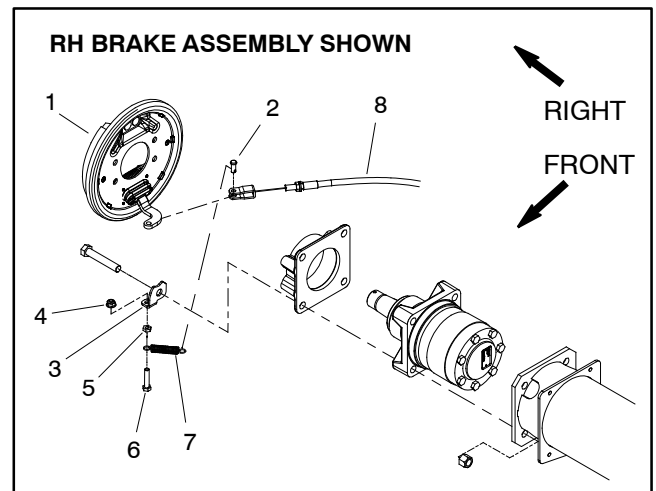

Figure 8
NOTE: Clevis pin that secures brake cable to brake actuator lever is secured with extension spring (shown in Fig. 8).
6. Remove extension spring from clevis pin that secures brake cable to brake actuator lever (Fig. 8). Remove clevis pin and position brake cable away from brake actuator lever.
7. Secure wheel hub onto the wheel motor shaft with lock nut (item 12).
9. Position brake cable end to brake actuator lever (Fig. 8). Secure brake cable clevis to brake actuator lever with clevis pin and extension spring.
13. Torque wheel lug nuts evenly in a crossing pattern from **70 to 90 ft-lb (95 to 122 N-m)**. Torque lock nut (item 12) that secures wheel hub from **315 to 385 ft-lb (428 to 522 N-m)**.